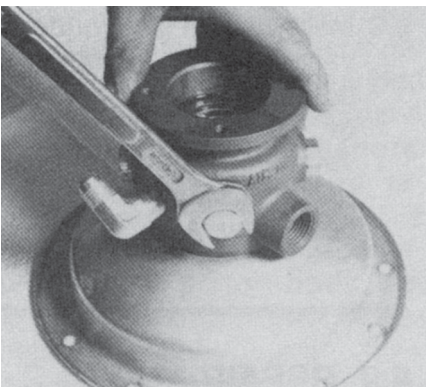

Figure 4-7 Removing detent bolt, spring and pin.
4.7.1 Use 11/16" wrench and remove the four sets of detent bolts (6), springs (7), and pins (9) from the air valve body (5A). See Figure 4-7.